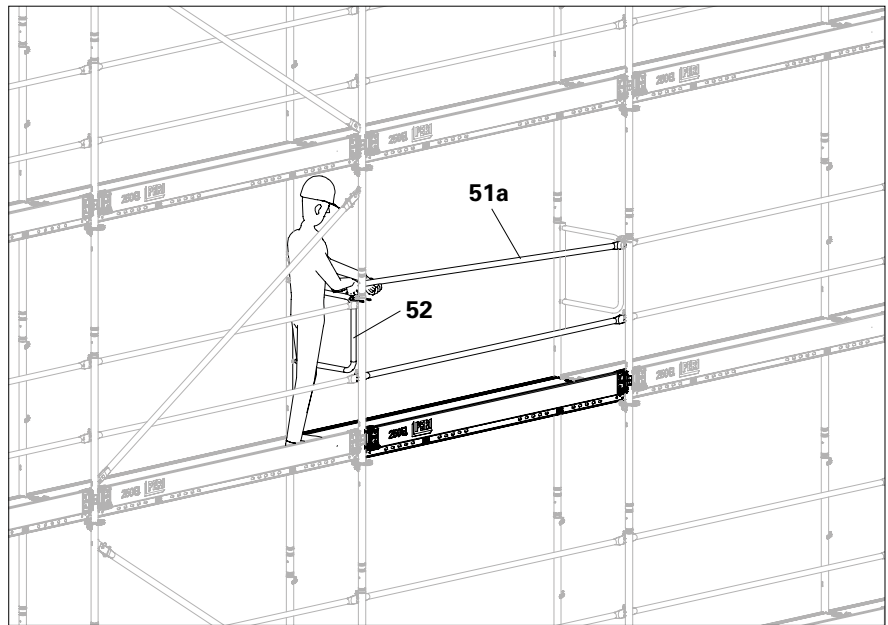

Fig. B9.02a
4. Remove the first End Guardrail EPF (52). (Fig. B9.02a)